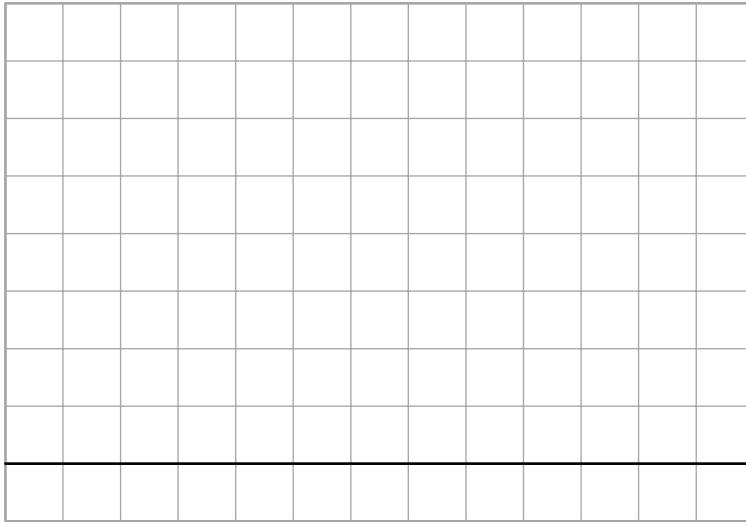

Figure 10-11:
10. **Adjust the Vertical Position knob until the beam sits on the first division on the screen (Figure 10-11).**